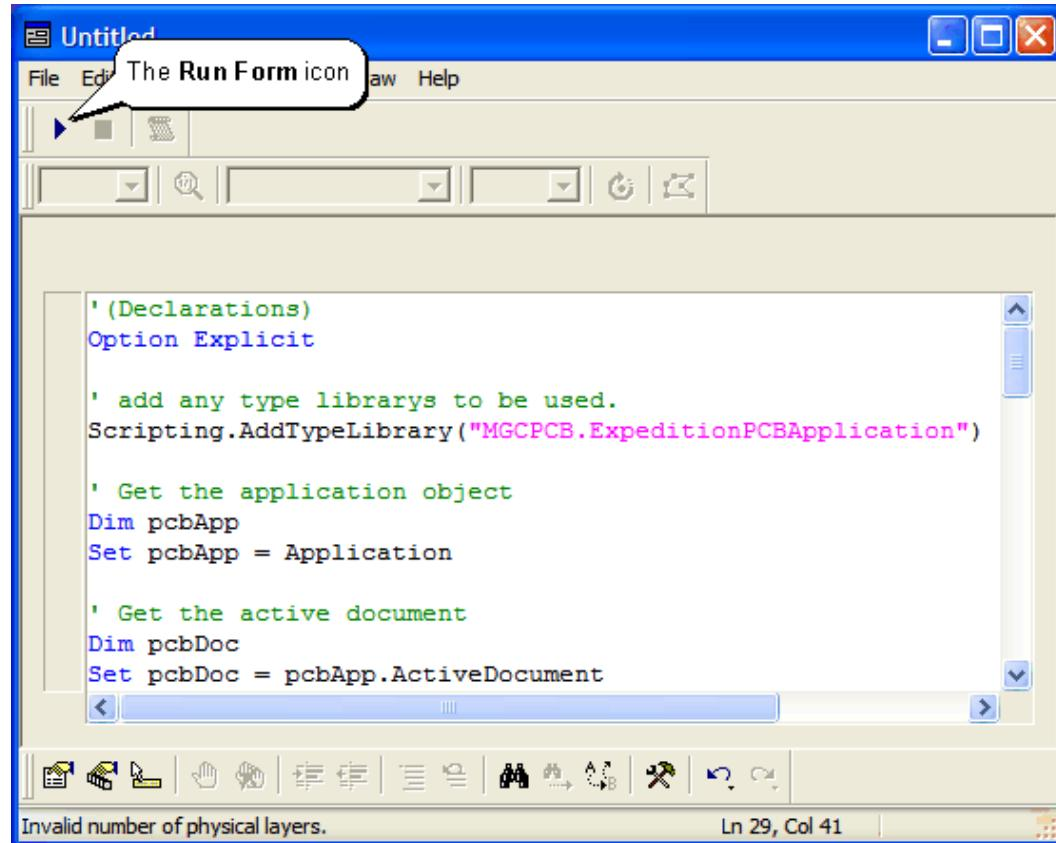

Figure 4-3. The IDE in its text editor mode.
Normally, you will type your script directly into the main editing window. For the purposes of this example, however, you will use the script you created in the previous chapter. Use the editor of your choice to open your *ViaCount.vbs* script; use the **Edit > Select All** command to select the entire script in this editor; use the **Edit > Copy** command to copy the script into the paste buffer; then use the **Edit > Paste** command in the IDE to paste the script between the *(Declarations)* and *End of (Declarations)* comments as illustrated in Figure 4-3.
- 6) You can now run your new script directly from the IDE by clicking the **Run Form** icon (Figure 4-3); this is the right-pointing arrow that looks like the "Play" button on a VCR or DVD player and that is located in the upper-left-hand corner of the IDE. Alternatively, you can use the **Run > Run** command or the **F5** function key to achieve the same effect.